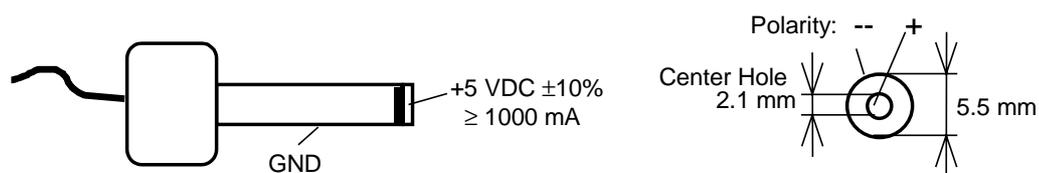

Figure 3: Connecting the Supply Voltage at X10
- Using the included 5VDC power adapter, connect the power socket on the board (X10) to a power supply (*refer to Figure 3 for the correct polarity*). The phyCORE module/Development Board combination requires a 5 VDC@1A $\pm 3\%$ regulated supply.